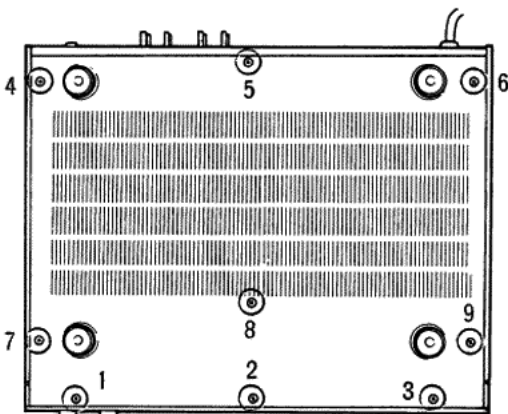
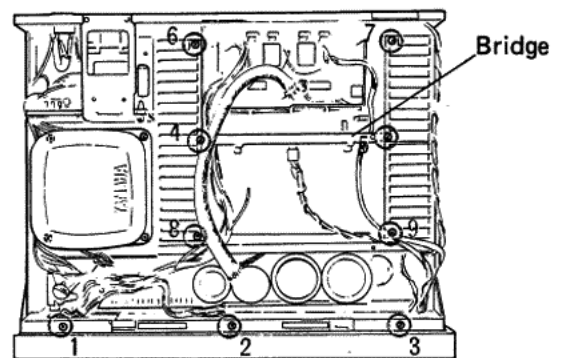

Fig. 2
Fig. 3
Remove screws ① through ⑨ in Fig. 2 and then remove the bottom cover.
- b. Remove screws ① through ③ in Fig. 3 and screws ① through ③ in Fig. 2, the front panel may be lifted out forward gently. When is performed, the illumination lamp of the power switch must be disconnected.
- Remove screws ④ and ⑤ in Fig. 3 and detach the bridge.
- Remove screws ⑦ and ⑨ in Fig. 3 and detach the heat sink.
- Mount the heat sink on which power and drive transistors have been secured. After the heat sink is secured with screws ⑦ and ⑨ in Fig. 3, solder the lead wires of power transistors to the main circuit board.